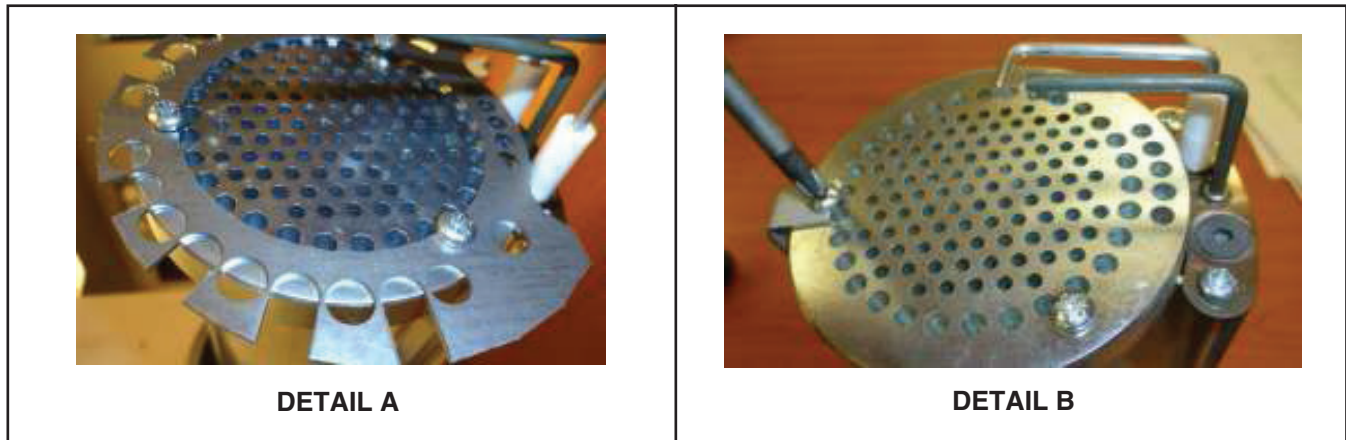

Figure 4. Flame Plate, Burner Head, and Anti-Tip Bracket
- a. Remove and save three screws (see Figure 4, DETAIL A) that secure flame plate and burner head to burner tube.
- c. Remove and discard anti-tip bracket shown in Figure 4, DETAIL B.